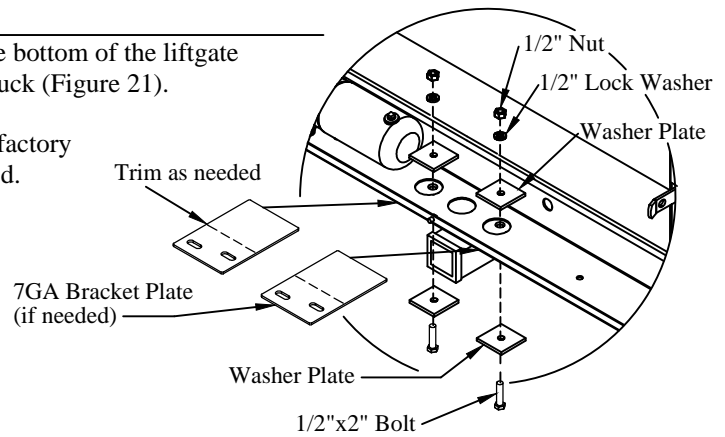

Figure 21: Lower bracket support (Class 5 hitch).
1. **Assemble** the supplied hardware through the outer two holes in the bottom of the liftgate mainframe and the two holes in the factory hitch plate on the truck (Figure 21).